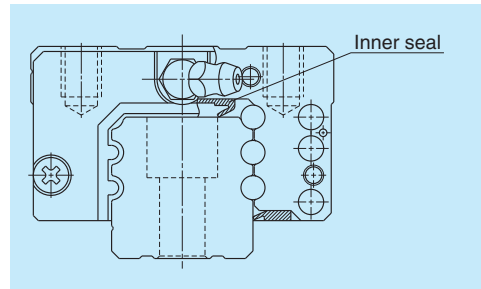

Fig. 7.6 Inner seal when installed
- The end seal installed on both ends of a slide cannot stop all contaminants, though the missed amount is negligible. An inner seal protects the rolling contact surface from such contaminants which entered inside the slide (**Fig. 7.6**).